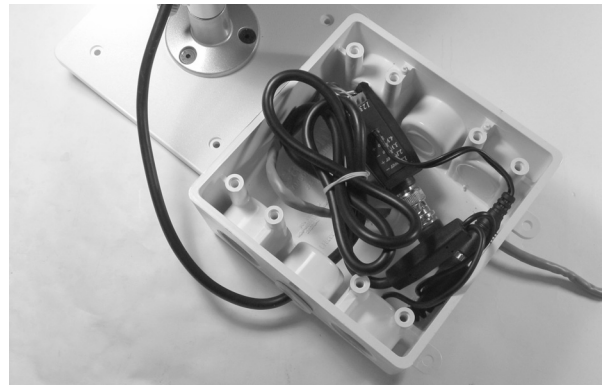

Fig. 6: Place cable and balun into enclosure
7. After all connections are secure, tie up excess wires and place wire and balun inside enclosure as shown in Fig. 6.